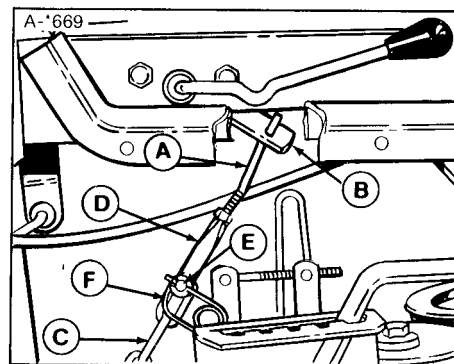

Figure 3. Lift Assembly
4. Insert the link (A, figure 3) into lift arm (B) then pivot back and down. Secure chain (C) to clevis (D) with pin (E) and clip (F). (Early models are equipped with a simple hook instead of clevis assembly shown in figure 3.) If chain has four links, be sure to use only three links.